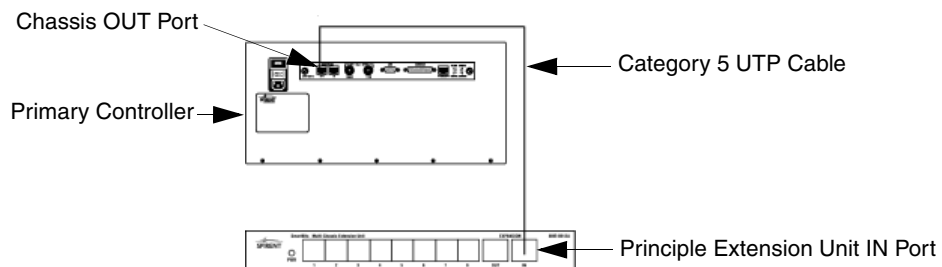
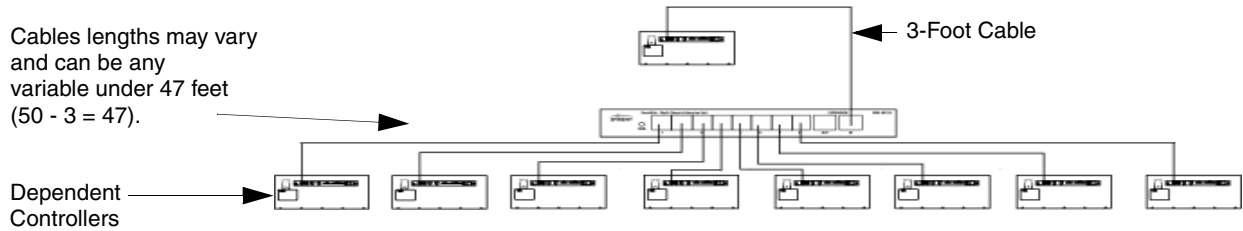

Figure A-9. Initial Connection of a SmartBits Chassis to an Extension Unit
Figure A-10. Connecting SmartBits Chassis to an Extension Unit
The primary SmartBits chassis connection that measures from the *Primary Controller* (or #1 chassis) to the *Principle Extension Unit* (see Figure A-9) determines the maximum cable length of subsequent cables used between a SmartBits chassis connected to the Multi-chassis Extension Unit.
To determine the cable length limitation for these connections, subtract the length of the *Primary Controller/Principle Extension Unit* cable from 50 feet (15.24 meters). In the example shown in Figure A-9, the cable used to connect the master chassis to the *Principle Extension Unit* is 3 feet in length. Therefore, the maximum accumulative cable length from the extension unit to all directly connected chassis can be any variable under 47 feet ($50 - 3 = 47$) in length (see Figure A-10 on page 100).
- 1 Connect a cable from the expansion OUT port of the *Primary Controller* to the IN port on the *Principle Expansion Unit* as shown in Figure A-9.
- 2 From each of the *Principle Extension Unit's* eight ports, connect up to eight *dependent controllers* IN ports as shown in Figure A-10.